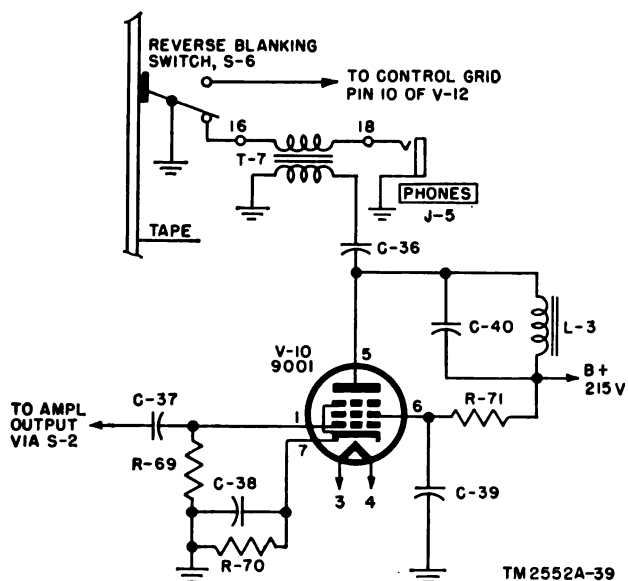

Figure 38. Headset amplifier and blanking switch, simplified schematic diagram.
a. To monitor the microphones or heads, without disturbing the amplitude and phase response of any channel, an isolation amplifier (fig. 38) is used to feed Headset HS-30-U. By means of the playback switch the cathode of the third stage of each amplifier is coupled through capacitor C37 to the control grid (pin No. 1) of tube V10. The plate load of the tube consists of capacitor C40, inductance L3, and transformer T7. Capacitor C40 and inductance L3 resonate at approximately 500 cycles giving a uniform overall response (from channel inputs to the headset output) up to 700 cycles. This extended range is necessary to increase the audibility of the signals for monitoring.
Faults should be located by following an orderly and systematic procedure with the purpose of first determining whether the trouble is in an input circuit, an output circuit, the power supply circuit, an oscillator circuit, or an amplifier circuit. After the defect is traced to one of these sections, the fault should be isolated further to components, and tubes should be checked. The signal should be traced from stage to stage to determine where the failure occurred. A trouble-shooting chart (fig. 45) is provided to assist in locating faults. Illustrations showing parts location will assist in identifying the various components when voltage and resistance measurements are made. Consult schematic diagrams (figs. 38 and through 42). Block dia-